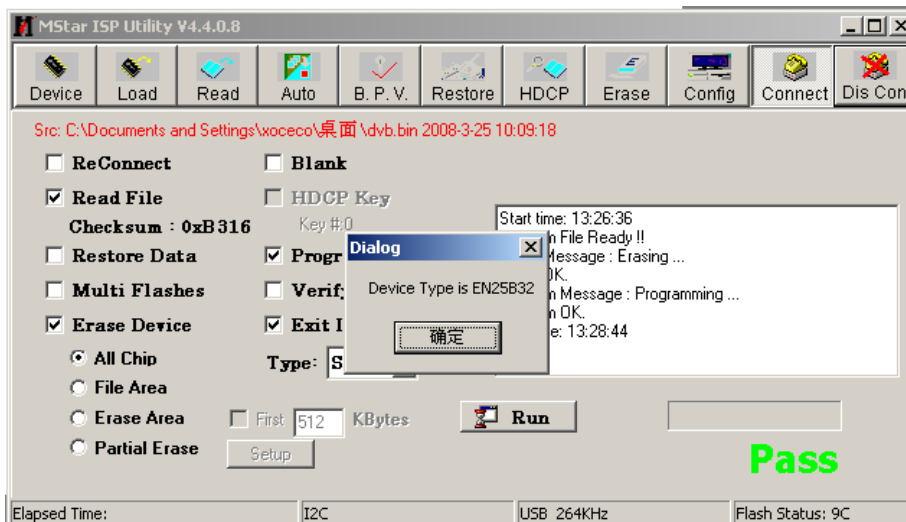

Fig2 Device EN25B52 successful connection
- (1) Main board upgrade: connect a four-pin wire of the ISP writing-device to Debug port(X806) on the main board; Unit upgrade: connect VGA ports of the ISP writing-device and the main board, enter factory menu and set “ISP Mode” to “ON”.
- (2) Using Mstar writing-tool on line, click “Connect” menu, if it displays “Device EN25B32” as shown in fig2, the connection is success, if it fails, select “EN25B52” of “Device” manually and press “Connect” again.